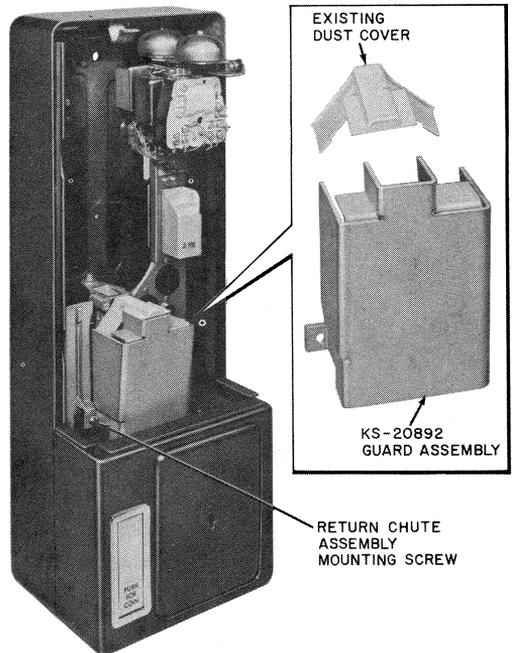

Fig. 29—Relay Antidrill Guard Arrangement
2.39 A special case-hardened steel antidrill guard assembly (KS-20892) is available to prevent fraudulent operation of coin relay in single slot coin telephone sets (Fig. 29). The guard assembly must be ordered separately.
2.41 Secure the antidrill guard assembly to the set using the existing return chute assembly mounting screw (Fig. 29).